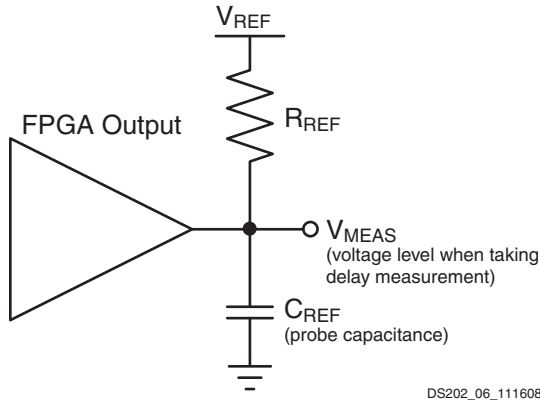
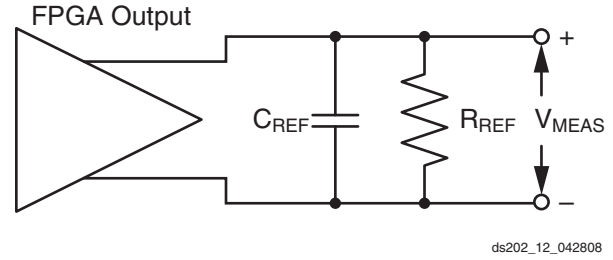

Figure 11: Single Ended Test Setup
Figure 12: Differential Test Setup
5. This is an input voltage reference that bears no relation to the  $V_{REF} / V_{MEAS}$  parameters found in IBIS models and/or noted in Figure 11.
Output delays are measured using a Tektronix P6245 TDS500/600 probe (< 1 pF) across approximately 4" of FR4 microstrip trace. Standard termination was used for all testing. The propagation delay of the 4" trace is characterized separately and subtracted from the final measurement, and is therefore not included in the generalized test setups shown in Figure 11 and Figure 12.